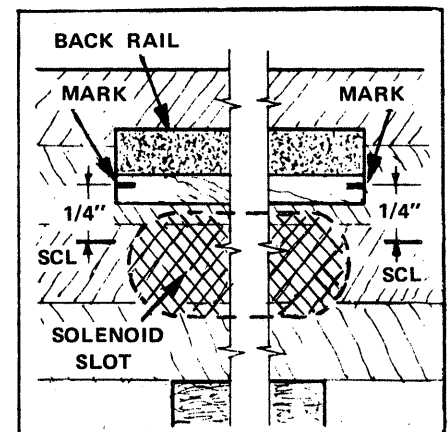

FIGURE 2-4 Measure in 1/4" toward the rail and mark the rail.
Observe the location of the SCL marks at the ends of the Back Rail. If the marks fall along side the ends of the rail, the rail should be repositioned. If the marks are in this area, proceed to STEP 2-6. If the SCL marks are at the FRONT edge or in FRONT of the Back Rail, the rail may have to be trimmed so it does not interfere with the 1/2" wide Solenoid Slots (see the shaded area in FIGURE 2-4). To determine if the Back Rail should be trimmed, proceed to Point A below.
A. Measure from the SCL marks 1/4" toward the REAR of the Keybed. If the measurements end beside the Back Rail, mark the rail at those points as shown in FIGURE 2-4, then proceed to the next Step. If the measurement ends in front of the rail, proceed to the next Step.